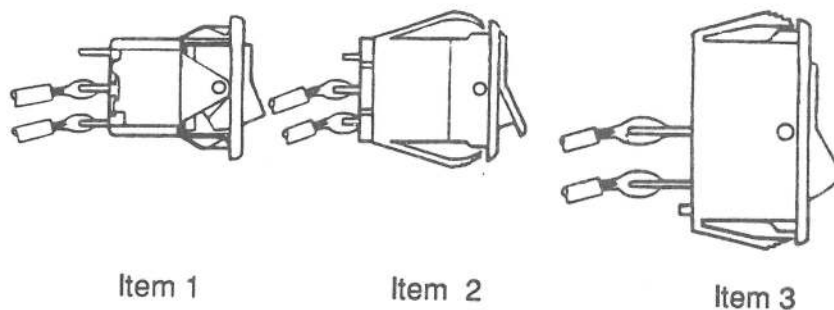

FIGURE 1
- a) Switch, Power Supply, Rocker, Two Pole (Figure 1, switch A)
(Figure 1, switch B)
See Figure 1 for the three types of switch usually found in Apple II power supplies. The small, three-pole switch (Figure 1, switch B) is now obsolete and should be replaced with a new Switch, P.S., Three Pole (Figure 1, switch C). The large, two-pole rocker switch, (Figure 1, switch A) must be replaced by another two pole, rocker switch, (Figure 1, switch A).